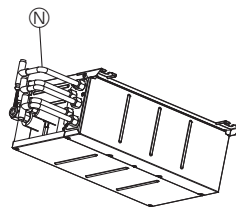

Fig. 8-7
- ▶ To divide the wirings of each terminal block into 2 branches outside the branch box, use 2-branch wiring conduits ⑮. (Fig. 8-7)